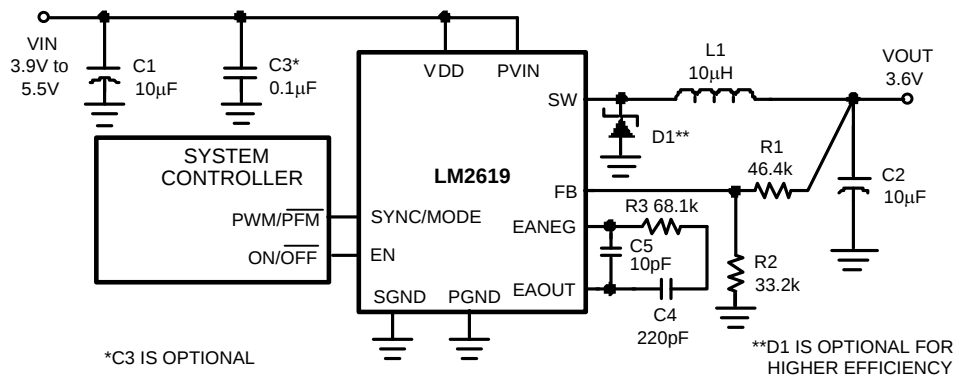

Figure 20. Typical Operating Circuit for 3.6V Output Voltage
(1) The LM2619 is designed for mobile phone applications where turn-on after system power-up is controlled by the system controller. Thus, it should be kept in shutdown by holding the EN pin low until the input voltage exceeds 2.8V.
(2) The hysteresis voltage is the minimum voltage swing on the FB pin that causes the internal feedback and control circuitry to turn the internal PFET switch on and then off during PFM mode. When resistor dividers are used like in the operating circuit of Figure 20, the hysteresis at the output will be the value of the hysteresis at the feedback pin times the resistor divider ratio. In this case, 24mV (typ) x ((46.4k + 33.2k)/33.2k).
(3) Current limit is built-in, fixed, and not adjustable. If the current limit is reached while the voltage at the FB pin is pulled below 0.7V, the internal PFET switch turns off for 2.5μs to allow the inductor current to diminish.
(4) SYNC driven with an external clock switching between V_{IN} and GND. When an external clock is present at SYNC; the IC is forced to be in PWM mode at the external clock frequency. The LM2619 synchronizes to the rising edge of the external clock.
DC PWM mode feedback voltage precision is $\pm 1\%$. Efficiency is typically 96% for a 200mA load with 3.6V output, 3.9V input. The efficiency can be further increased by using a schottky diode like MBRM120L as shown in Figure 20. PWM mode quiescent current is 600µA typ. The output voltage can be set from 1.5V to 3.6V by using external feedback resistors.
Referring to Figure 20, Figure 21, Figure 22, and Figure 23, the LM2619 operates as follows. During the first part of each switching cycle, the control block in the LM2619 turns on the internal PFET switch. This allows current to flow from the input through the inductor to the output filter capacitor and load. The inductor limits the current to a ramp with a slope of $(V_{IN} - V_{OUT})/L$, by storing energy in a magnetic field. During the second part of each cycle, the controller turns the PFET switch off, blocking current flow from the input, and then turns the NFET synchronous rectifier on. In response, the inductor's magnetic field collapses, generating a voltage that forces current from ground through the synchronous rectifier to the output filter capacitor and load. As the stored energy is transferred back into the circuit and depleted, the inductor current ramps down with a slope of V_{OUT}/L . If the inductor current reaches zero before the next cycle, the synchronous rectifier is turned off to prevent current reversal. The output filter capacitor stores charge when the inductor current is high, and releases it when low, smoothing the voltage across the load.
The LM2619 uses external components connected to the EANEG and EAOUT pins to compensate the regulator (Figure 20). Typically, all that is required is a series connection of one capacitor (C4) and one resistor (R3). A capacitor (C5) can be connected across the EANEG and EAOUT pins to improve the noise immunity of the loop. C5 reacts with R3 to give a high frequency pole. C4 reacts with the high open loop gain of the error amplifier and the resistance at the EANEG pin to create the dominant pole for the system, while R3 and C4 react to create a zero in the frequency response. The pole rolls off the loop gain, to give a bandwidth somewhere between 10kHz and 50kHz, this avoids a 100kHz parasitic pole contributed by the current mode controller. Typical values in the 220pF to 1nF (C4) range are recommended to create a pole on the order of 10Hz or less.